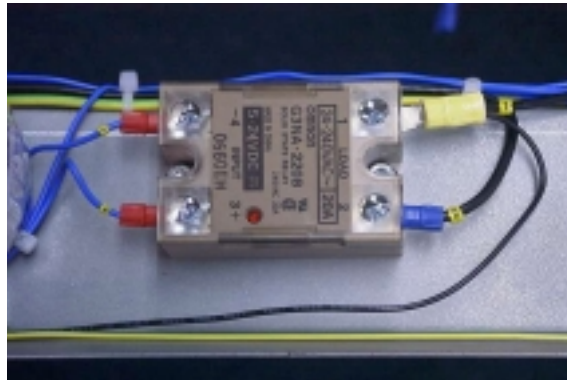

fig. 16
1. Loosen all four screws that clamp the wires. They are marked 1 through 4. See figure 16.